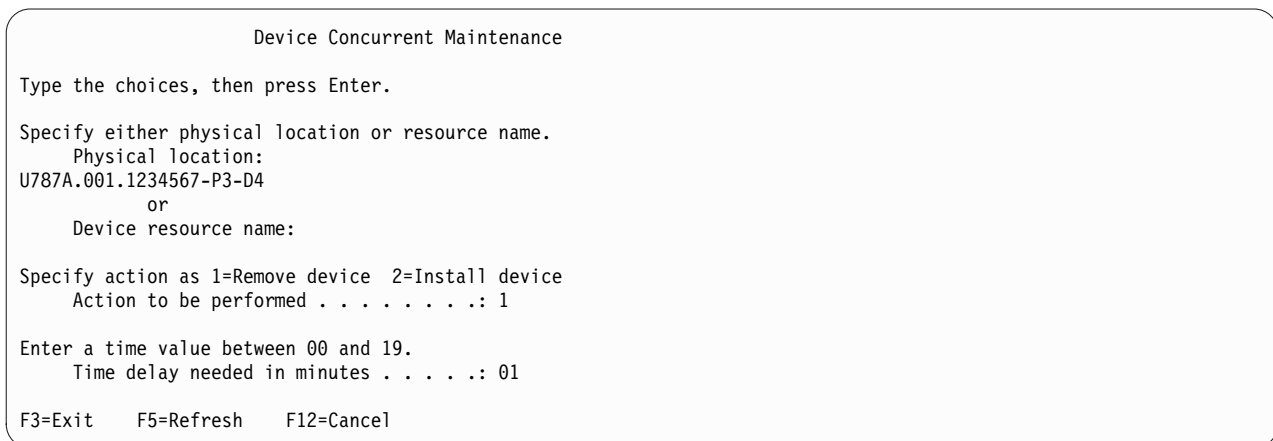

Figure 41. Example Device Concurrent Maintenance display
10. From the Hardware Service Manager, navigate to **Select Device Concurrent Maintenance** option. Press Enter. The Device Concurrent Maintenance display is shown, as shown in the Figure 41.